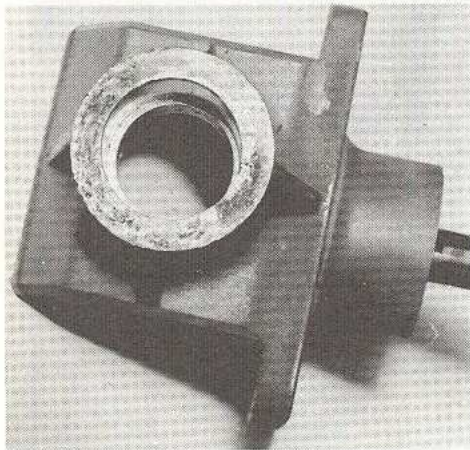

FIG. 66
9. When installing the new grease seal, install with lip on seal towards inner side of gear case. Press seal in, from outer side of case, until seal bottoms on shoulder. See Fig. 66.